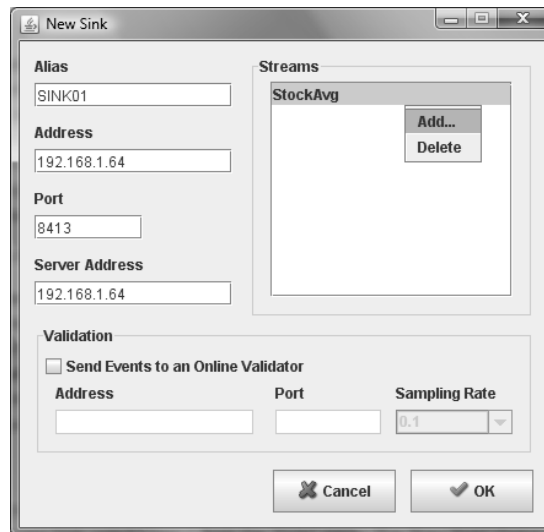

Figure 2.5: Sink Configuration Screen.
To configure a new Sink, select 'New...' from the 'Sinks' menu. The "New Sink" Dialog will appear as in figure 2.5. A Sink configuration has the following parameters:
- ✓ Streams – the list of output streams that the Sink will listen to. You can add and delete output streams by right clicking the 'Streams' list as shown in figure 2.5;